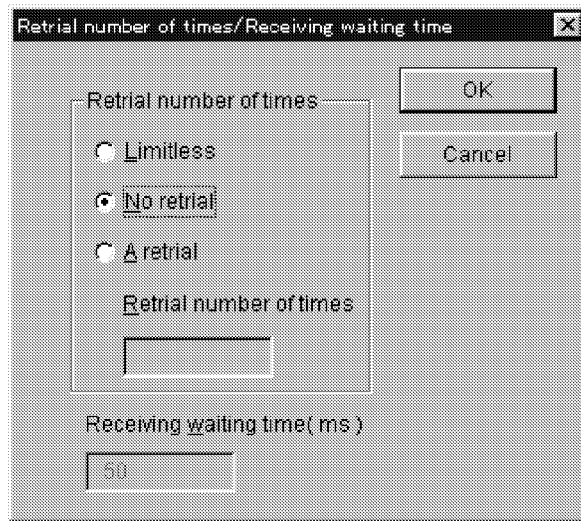

Figure 5-14 [Retrial number of times/Receiving waiting time] Window
- (2) The [Retrial number of times/receiving waiting time] window is displayed (Figure 5-14).
Clicking the **Cancel** button closes the [Retrial number of times/Receiving waiting time] window (Figure 5-14) without writing the settings to the PCs.